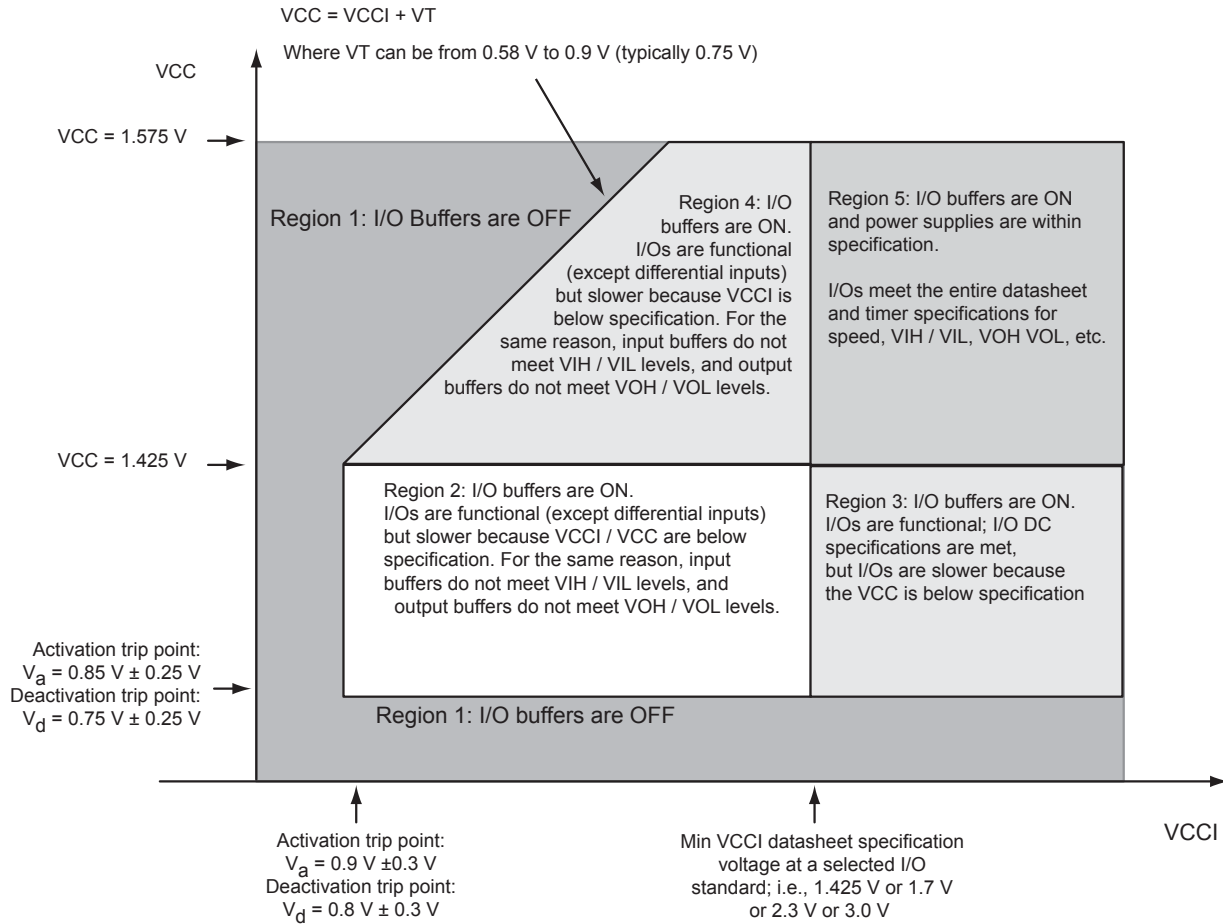

Figure 3-1 • I/O State as a Function of VCCI and VCC Voltage Levels
Sophisticated power-up management circuitry is designed into every Fusion device. These circuits ensure easy transition from the powered off state to the powered up state of the device. The many different supplies can power up in any sequence with minimized current spikes or surges. In addition, the I/O will be in a known state through the power-up sequence. The basic principle is shown in Figure 3-1 on page 3-6.
1. VCC and VCCI are above the minimum specified trip points (Figure 3-1).
Actel recommends using monotonic power supplies or voltage regulators to ensure proper power-up behavior. Power ramp-up should be monotonic at least until VCC and VCCPLX exceed brownout activation levels. The VCC activation level is specified as 1.1 V worst-case (see Figure 3-1 on page 3-6 for more details).